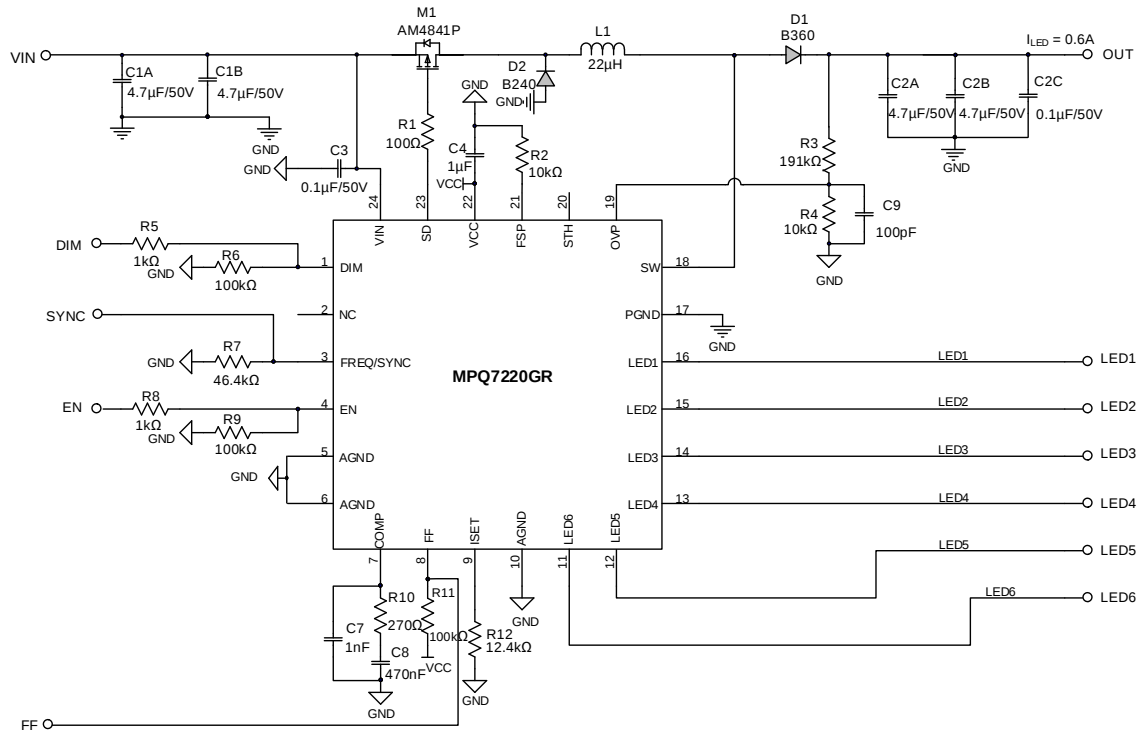

Figure 3: $I_{SET} = 100mA$, $f_{SW} = 470kHz$, Application Circuit for QFN-24 Package
The voltage divider sets the over-voltage protection (OVP) point (see Figure 3). Calculate V_{OVP} with Equation (4):